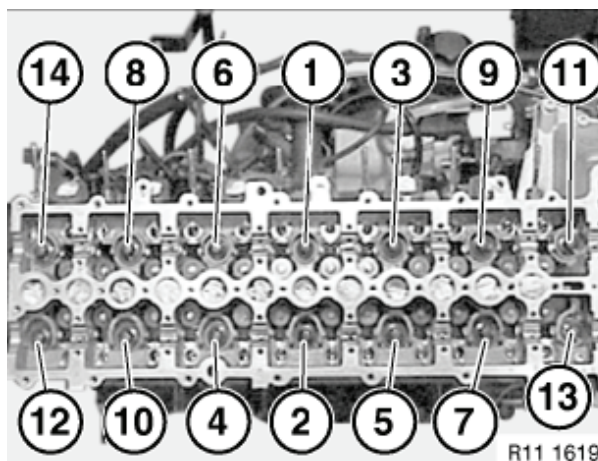

Figure 5-18
22. **6BY2 Engines:** Remove cylinder head bolts in reverse sequence, beginning with number 14 (**Figure 5-18**).